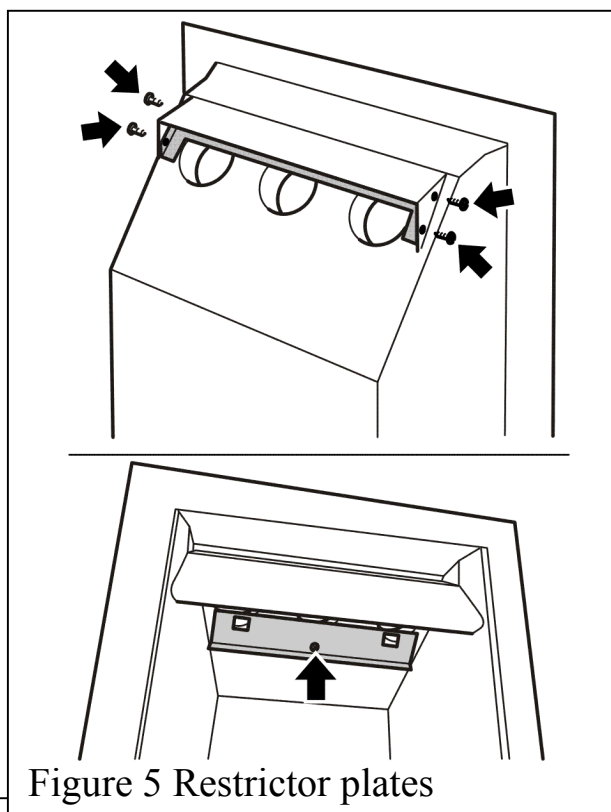

Figure 5 Restrictor plates
1. Detach the outer restrictor plate by removing four screws (See fig. 5).
2. Detach the inner restrictor plate by removing one screw (See fig. 5).